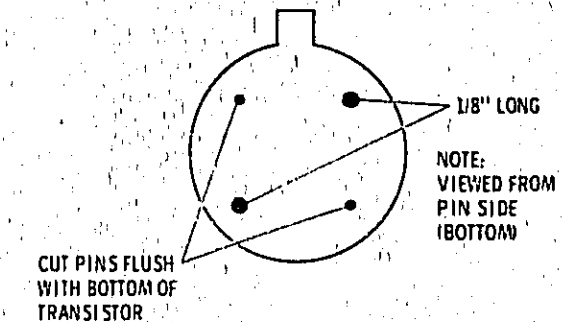

Figure 8-74. RF Oscillator Transistor Preparation
1. Unscrew transistor cap (21).
2. Remove transistor (20).
3. Clip new transistor leads as shown in Figure 8-74.